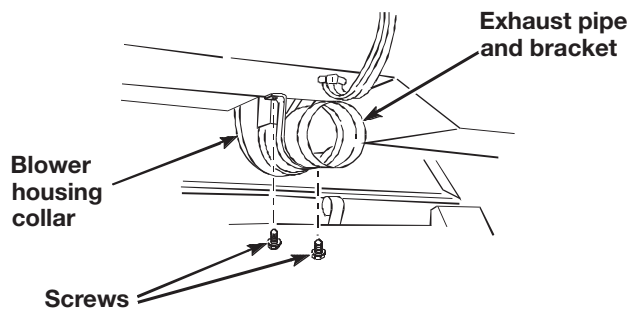

Figure 2
3. Use ratchet wrench or short nut driver to remove exhaust pipe and bracket from the blower housing collar and discard part, or save for future use. See Figure 2.